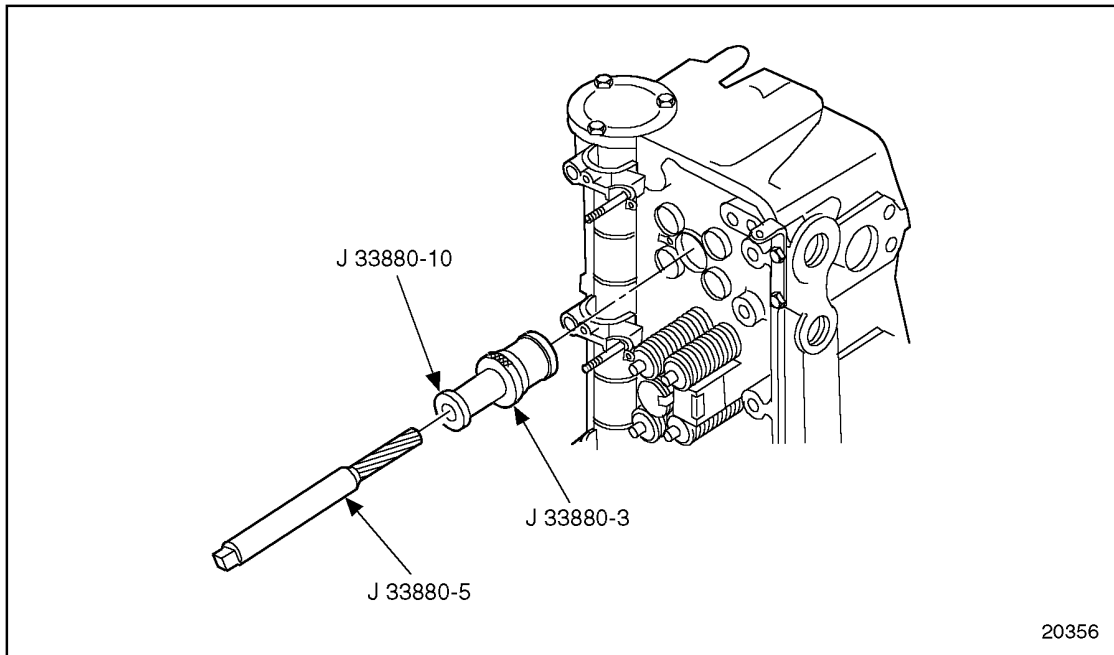

Figure 2-21 Reaming Injector Tube Tip
3. Place a few drops of cutting oil on the cutting edges of the tube tip reamer tool, J 33880-5 part of J 33880, and install it in the pilot. See Figure 2-21.